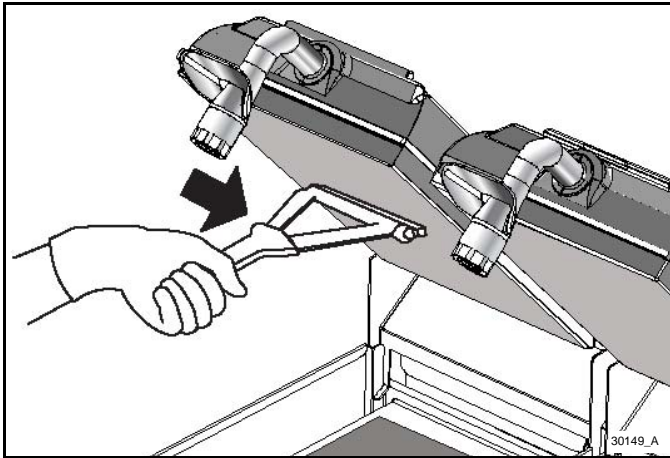

Figure-94
- Use the wiper squeegee to clean the release sheet on the upper platen. Use a diagonal motion to clean the sheet. Hold the handle at a slightly upward angle, with the wiper end facing downward. See Figure-94.